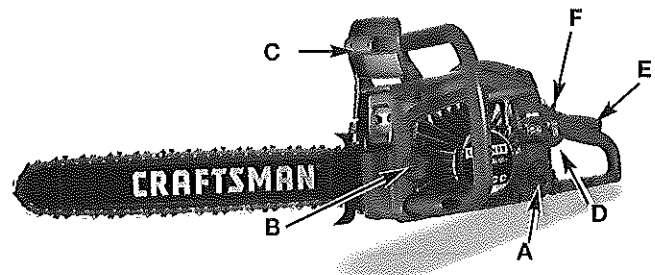

Fig. 3
NOTE: For emergency stopping, push the lever of the chain brake lever/hand guard (C) forward and move the STOP switch up (Fig. 3, 4).
5. Hold down safety trigger (E) and squeeze the throttle trigger (D). With thumb, press down on the throttle latch (F). Release trigger (D) first. This will lock the throttle into wide open position (Fig. 3). Pull the rope with a controlled and steady motion 4 times.